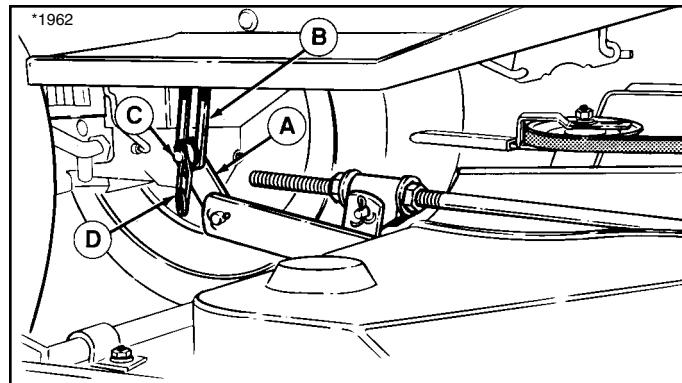

Figure 8. Lift Arms
4. Disconnect the mower lift arm from the tractor lift arm (Figure 8). Re-install washer and safety clip on mower lift arm for storage.